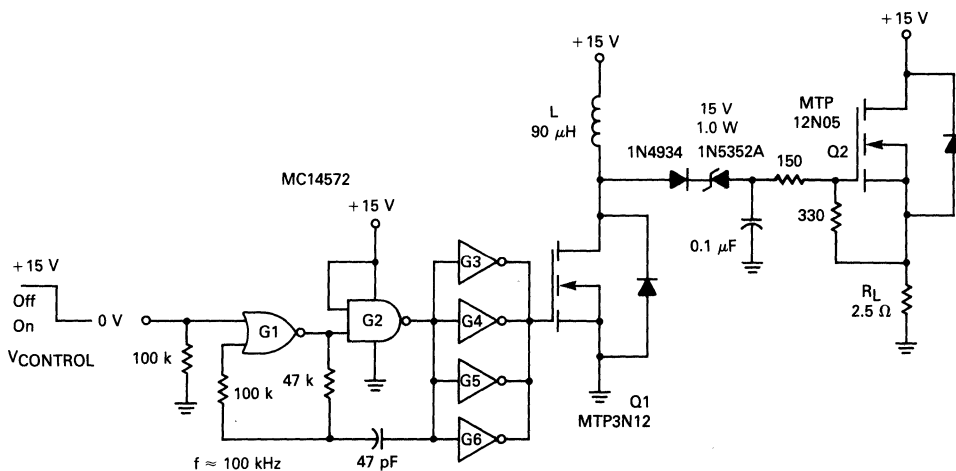

FIGURE 6-36 — N-CHANNEL SOURCE FOLLOWER WITH FLYBACK CONVERTER DRIVE
Another circuit for raising the gate voltage well above the supply voltage, one that uses a flyback converter, is shown in Figure 6-36. The power switch used in this converter, an MTP3N12 power MOSFET (Q1), is easily driven by the CMOS, 100 kHz, astable multivibrator (MV). This circuit uses two of the Hex Inverter MC14572 gates (G1 and G2) as the MV with the remaining four inverters, in parallel, providing the gate-drive to the FET, about 25 mA peak to charge C_{iss} . When Q1 turns on, the drain current ramps-up to about 0.8 A and upon turn-off, the flyback voltage reaches about 60 V. This inductor stored energy is then dumped into the diode-resistor-capacitor load circuit to provide the bias for the power FET switch Q2 (MTP12N05), about 13 V gate-source (28 V gate-ground). The series connected 15 V zener diode blocks the V_{DD} supply from reaching the gate of Q2, when Q1 is off.